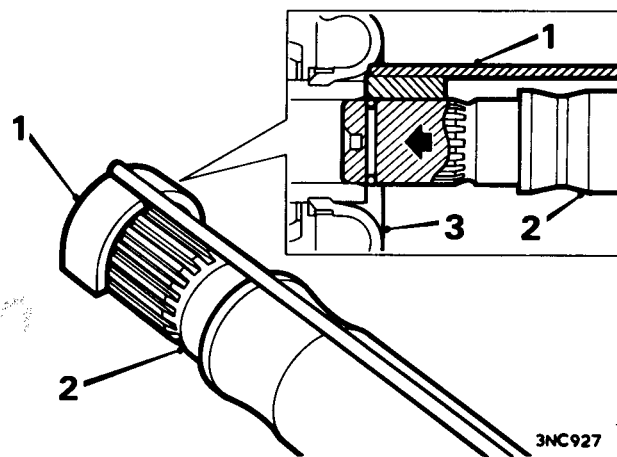

Fig. G.13
- b. When assembling the drive shaft into the inboard joint, use Service tool 18G 1241 to compress the inboard joint circlip, see Fig. G.13.
8. When refitting the drive shaft into the inboard joint, use Service tool 18G 1241 to compress the inboard joint circlip, see Fig. G.13. Push the shaft smartly into the joint to lock the shaft in the joint.